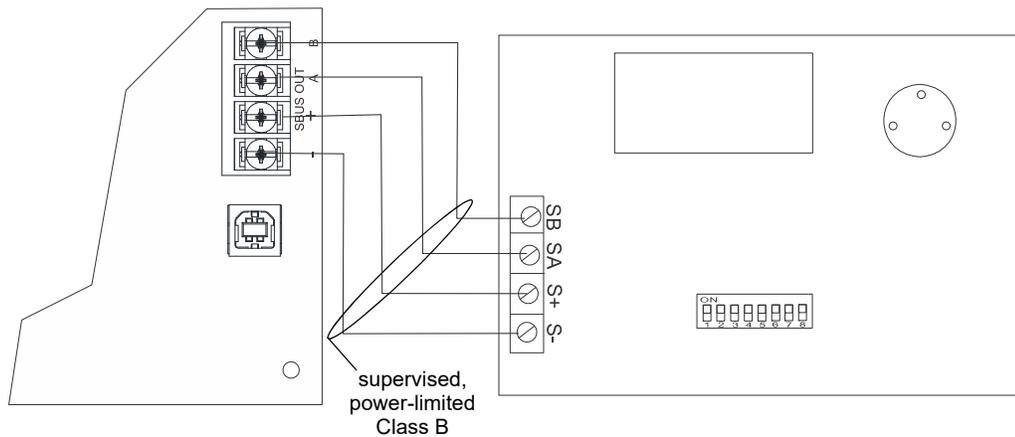

Figure 4.15 6855 Connection to the Panel
7. Wire the annunciator board to the main control panel. Refer to Figure 4.15.
7. Run wires to the control panel. Refer to Figure 4.15.